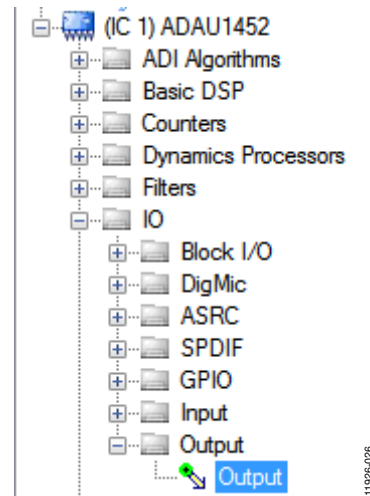

Figure 24. Output Block Selection
- i. From the **ADAU1452 > IO > Output** folder, click **Output** (see Figure 24) and drag it into the project space to the right of the toolbox.